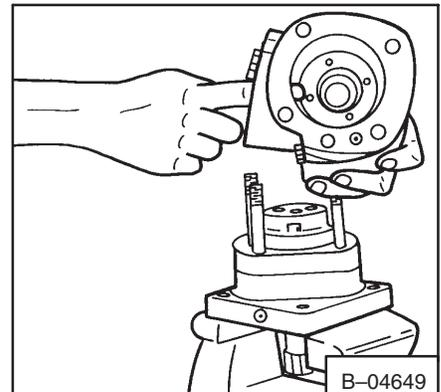

Fig. 3-77 Installing Housing
31. Make sure the case drain holes are in alignment. Install the valve housing by putting your finger through the port in the housing to hold the balance plate assembly in position (Fig. 3-77).